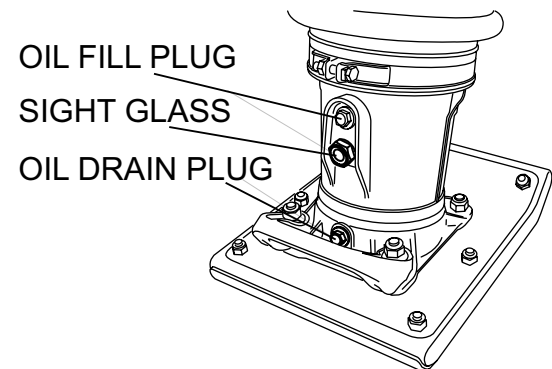

Figure 13. Oil Drain Plug
- Remove the oil drain plug on foot housing (Figure 13) and drain the oil. Refill with approximately 1.7 pint (800 cc) of 10W-30 SE, SF or higher grade motor oil. Oil should be midway in sight glass. Break in oil should be changed after first 50 hours.